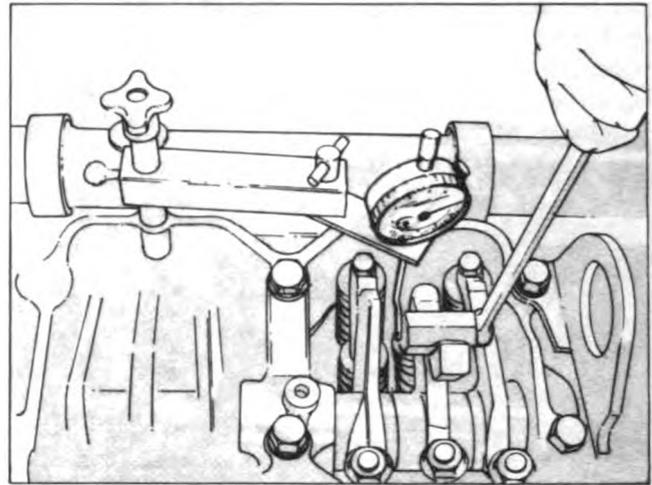

Fig. 2-44. (OM1052L). Actuating rocker lever
- Using ST-1193 Rocker Lever Actuator, Fig. 2-44, or equivalent, bar the lever toward the injector until the plunger is bottomed to squeeze the oil film from the cup. Allow the injector plunger to rise, then bottom again. Set the indicator at zero (0). Check the extension contact with the plunger top.